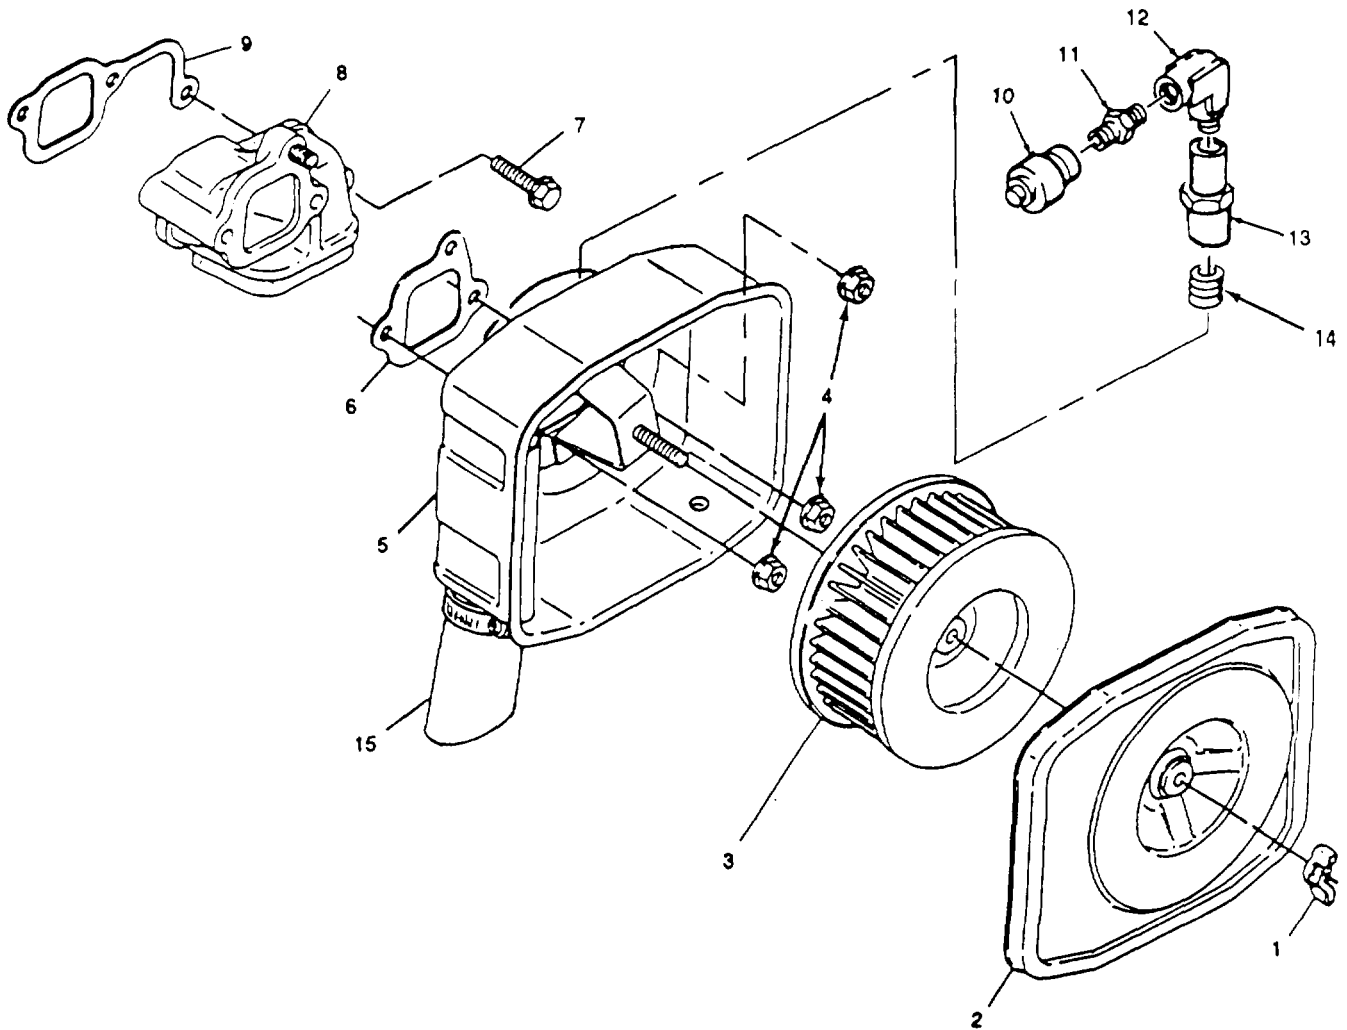

Figure 4-22. Air Intake System Repair and Replacement
a. Removal. (Refer to Figure 4-22)
- (1) Loosen and remove wing nut (1).
- (2) Detach air cleaner housing cover (2).
- (3) Remove air cleaner element (3).
- (4) Remove three hex nuts (4) securing the air cleaner housing (5).
- (5) Remove air cleaner housing (5). Discard gasket (6).
- (6) Remove hex bolt (7) and air intake bend (8). Discard gasket (9).
- (7) Remove restriction indicator (10), filter adapter (11), elbow (12), coupling (13), and nipple (14).